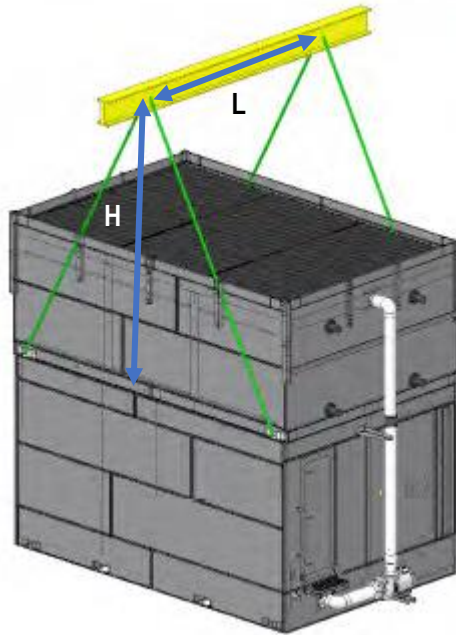
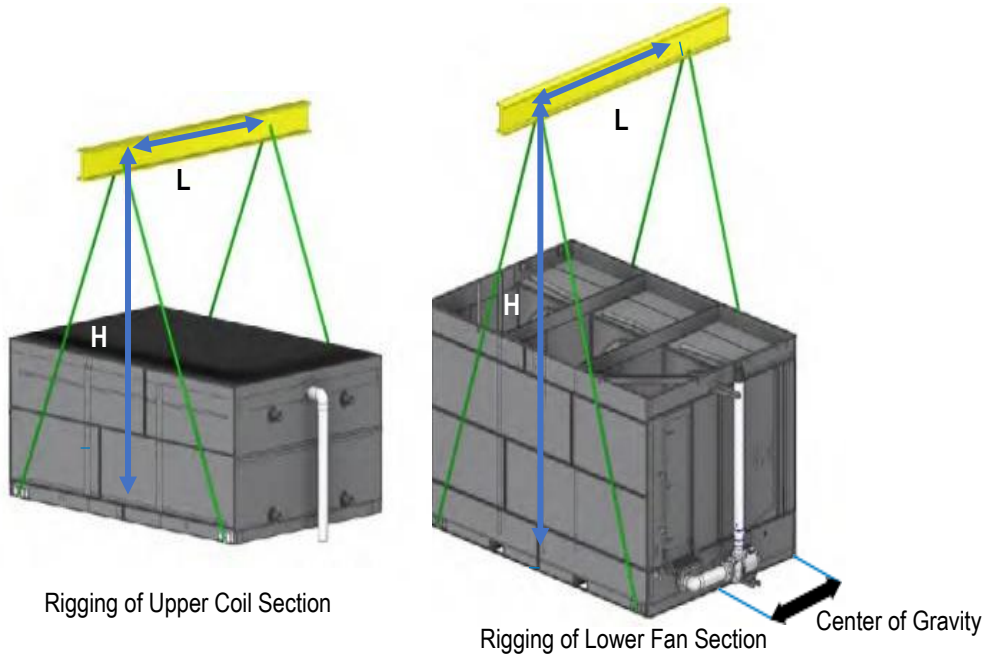

Figure 1. Single-Piece Lift
Figure 2. Two-Piece Lift
Most single cell Vertex™ Evaporative Condenser products are designed to be lifted in one assembled piece as shown in **Figure 1**.
Verify the total unit shipping weight is below 35,000 lbs. before performing a single-piece lift. A two-piece lift is shown in **Figure 2**.
WARNING: Single piece lift is ONLY possible when total unit shipping weight is under 35,000 lbs. Please refer to the shipping weight shown on the Unit Print from submittal package. Single piece lifting must be done using lifting ears on the base of the upper casing section (See **Figure 1**).
1. Remove any motors or accessories shipped in the cold water basin. Rig the basin section. The rigging hook must be placed above the section's center of gravity as detailed in **Figure 1** and **Figure 2**.